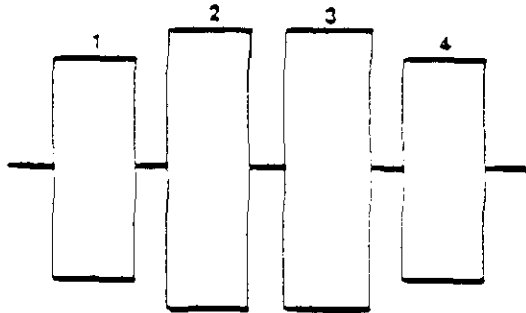

FIGURE 5-10
4. Verify the head azimuth is no greater than  $\pm$  18 minutes by comparing the third set of pulse burst to those in Figures 5-10, 5-11, and 5-12.
5. Select Head 1, and verify the head azimuth. Figure 5-10 depicts an azimuth of exactly zero minutes. This is the optimum head azimuth alignment.